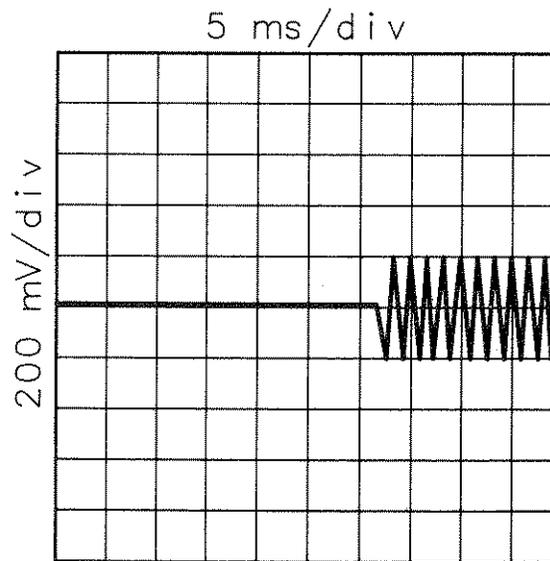

Figure 4-13. Frequency Switching Waveform
9. Using the **FREQ INCREMENT** keys, reset the Signal Generator's frequency to the start frequency (3 000.000 MHz). Press the digitizer (**STORE M1**) key on the oscilloscope and then use the appropriate **FREQ INCREMENT** key to step the Signal Generator to the stop frequency (1 900.000 MHz). The oscilloscope should digitize the switching waveform as the frequency changes. The waveform should be similar to the waveform shown in Figure 4-13.